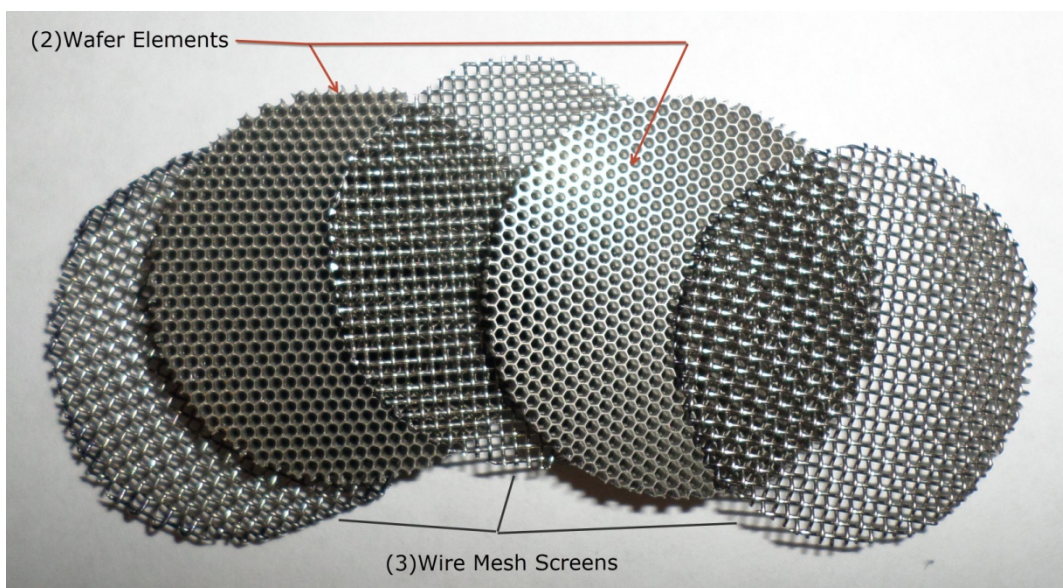

FIGURE 1 - TYPICAL MODEL 7622B FLAME CHECK ELEMENT
2. Refer to Fig. 1 which illustrates a typical flame check element assembly.